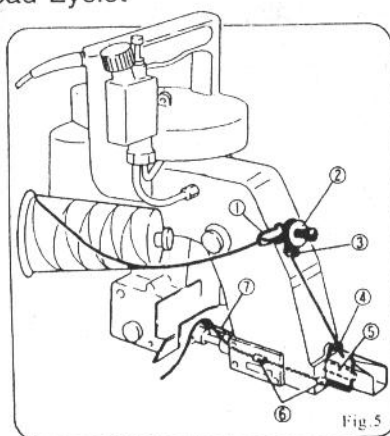

Fig. 5
3. Threading (Fig. 5)
The machine is delivered being threaded to show you proper threading of the machine, which is shown in Fig. 5, for identification. Follow the guide numbers 1 to 7 of Fig. 5.